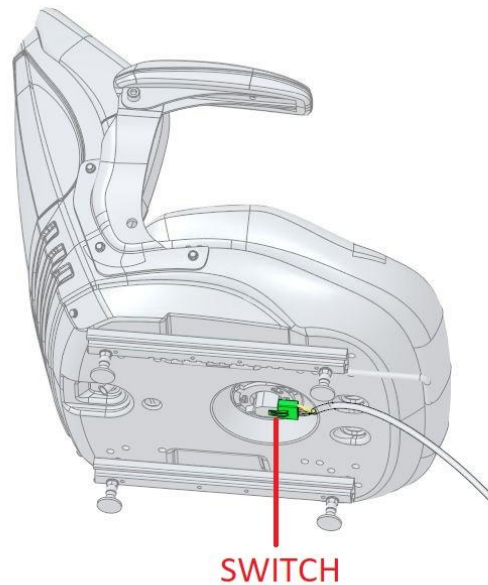

Fig. 2
3. Disconnect the switch connector beneath the seat (as shown in Fig.2 below).
4. Use a 13 mm socket wrench to disassemble the four installation nuts (1) under the seat pan.
2. Install the four seat nuts (1) and tighten them with a 13 mm socket wrench to a torque of 15-20 N•m (11~15 Ft-lbs).
3. Connect the switch connector beneath the seat (as shown in Fig.2 below).